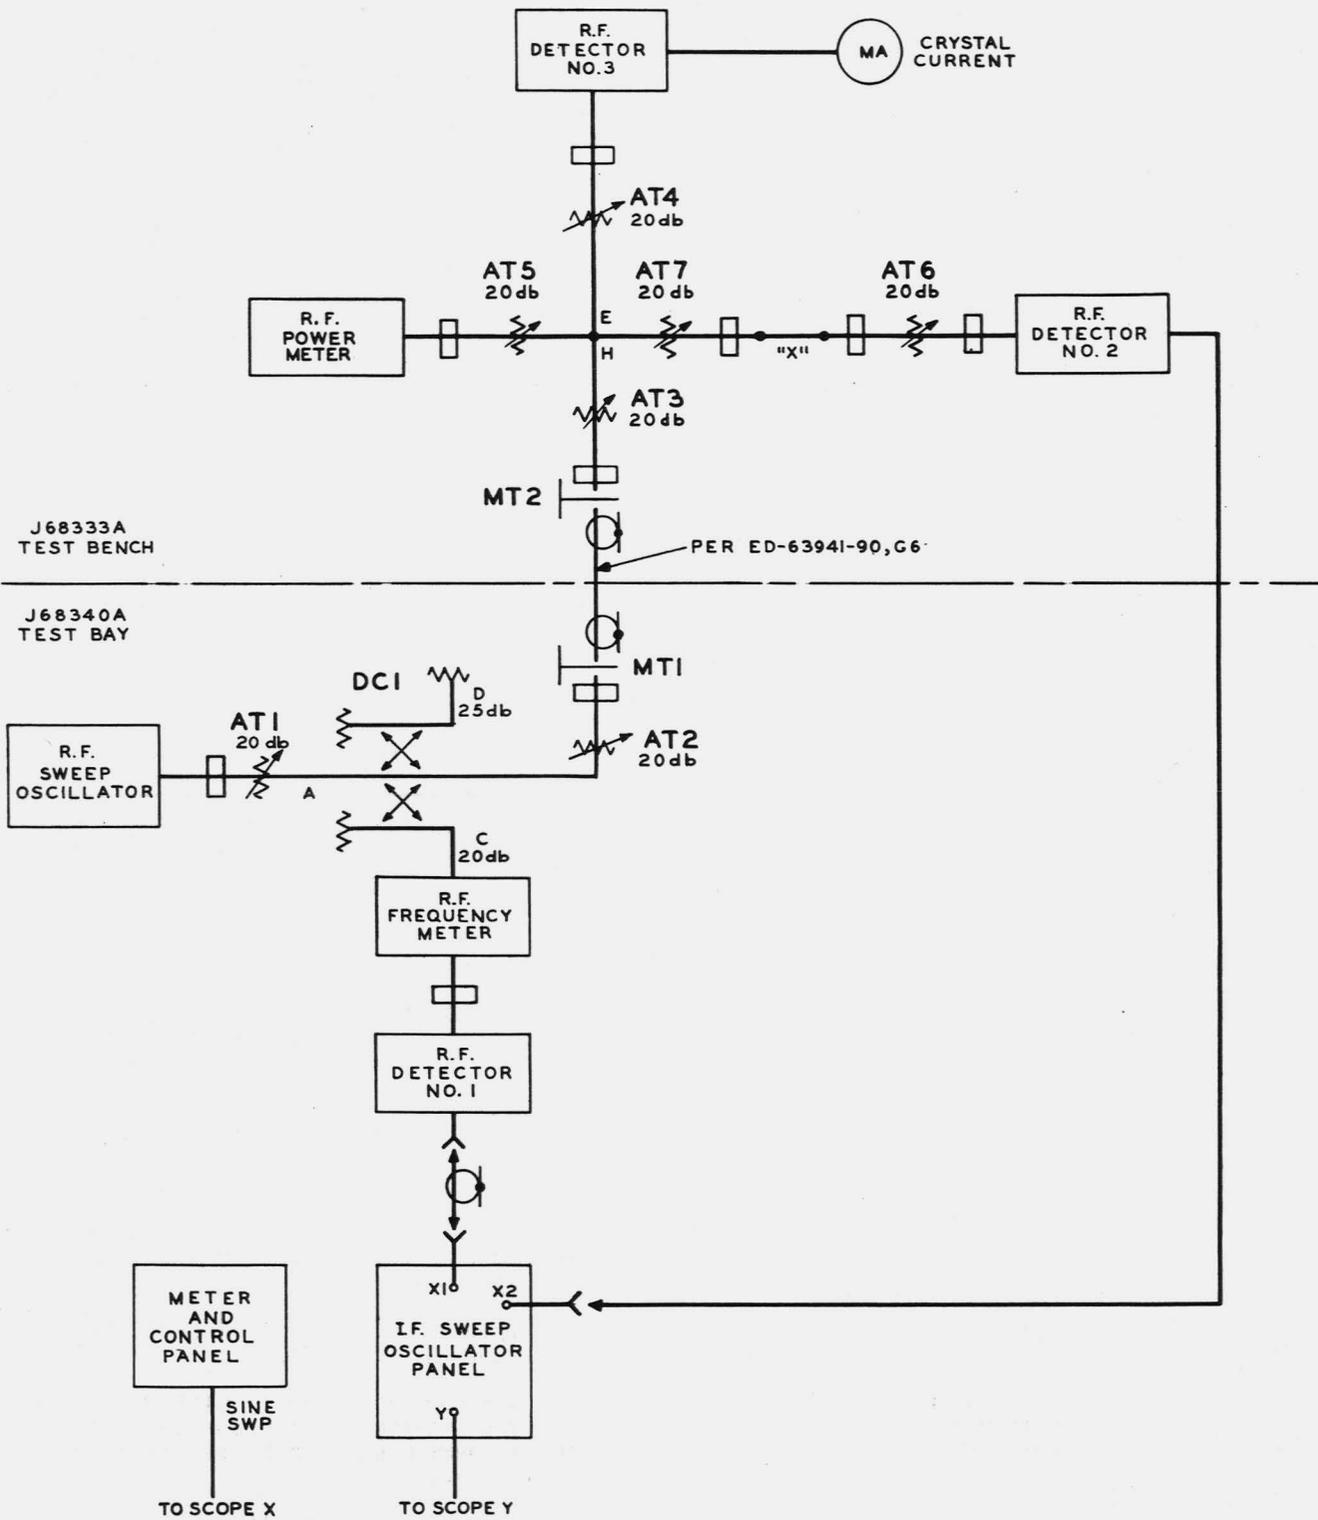

Fig. 19 - Test Arrangement for Oscillator Filter Adjustments
- (1) Connect the test equipment as shown in Fig. 19 and adjust.